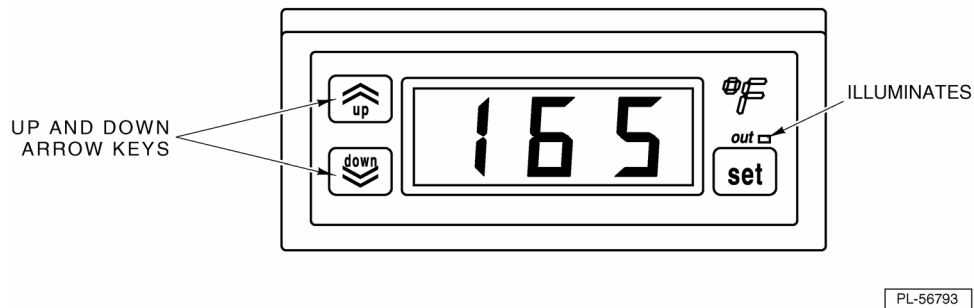

Fig. 33
- The heater output indicator will light as the unit preheats (Fig. 33).